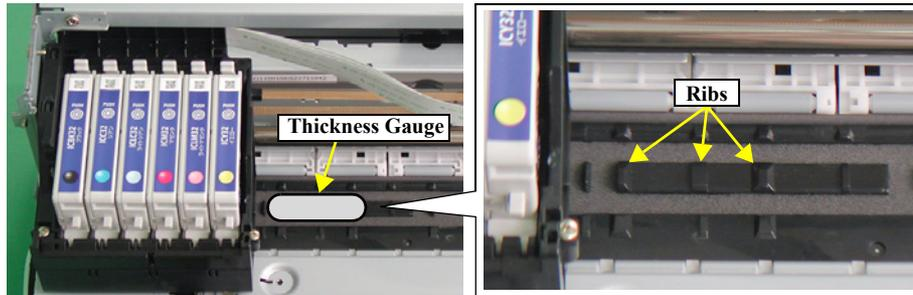

Figure 3-7. Setting the Thickness Gauge
- Move the Carriage Unit back to the left edge of the printer, then set the Thickness Gauge (1.31mm) on the three ribs of the Paper Guide, Front in the same way as the Figure 3-7.